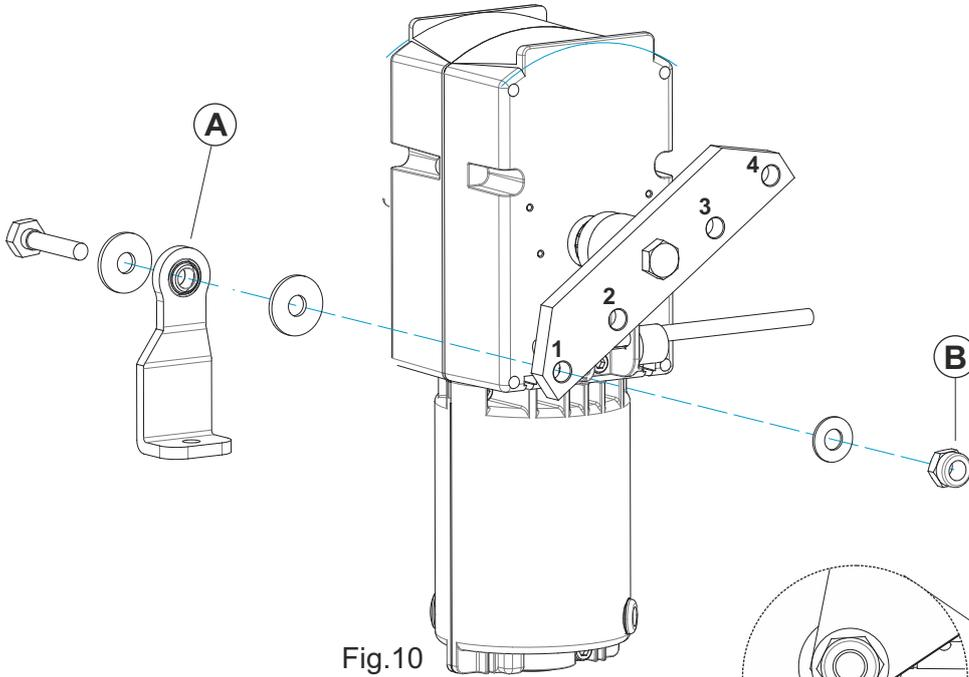

Fig.10
- Fix the bracket for beam fixation (A) into the balance as shown in Fig. 10
- Clamp the nut (B) with a tightening of 40 Nm